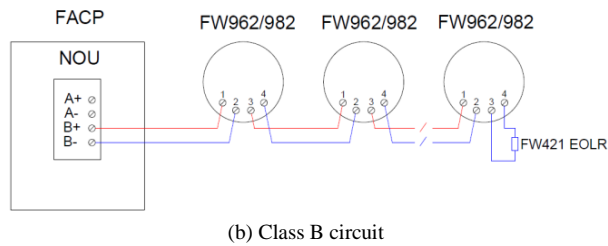

Figure 5 Wiring Diagram with FW106 FACP
3. Connect the wires. See Figure 4 and Figure 5.